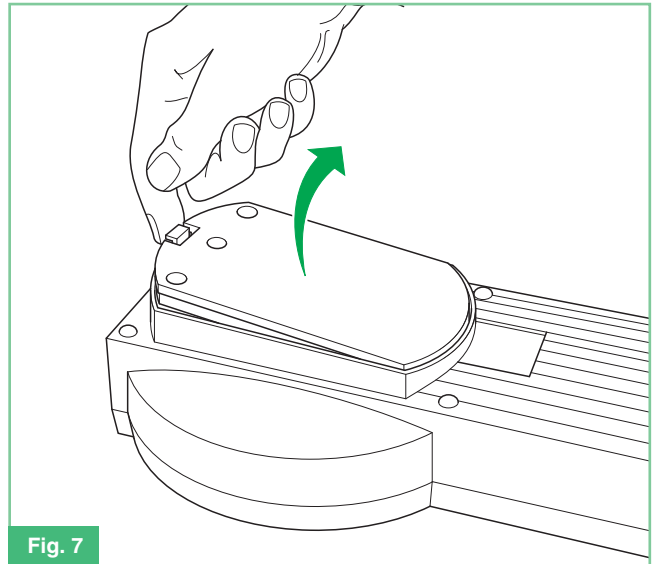

Fig. 7
2. Open the battery compartment as shown in figure 7.